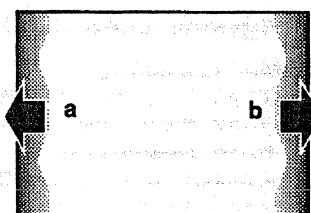

Fig.10-1
- 1) If the un-uniform color appears on the left or right of the screen as shown in Fig.10-1, loosen a screw "C" with the 2.5mm hex driver(Fig.11) and adjust the slot "D" to make color uniformity in white by using a slot screwdriver.